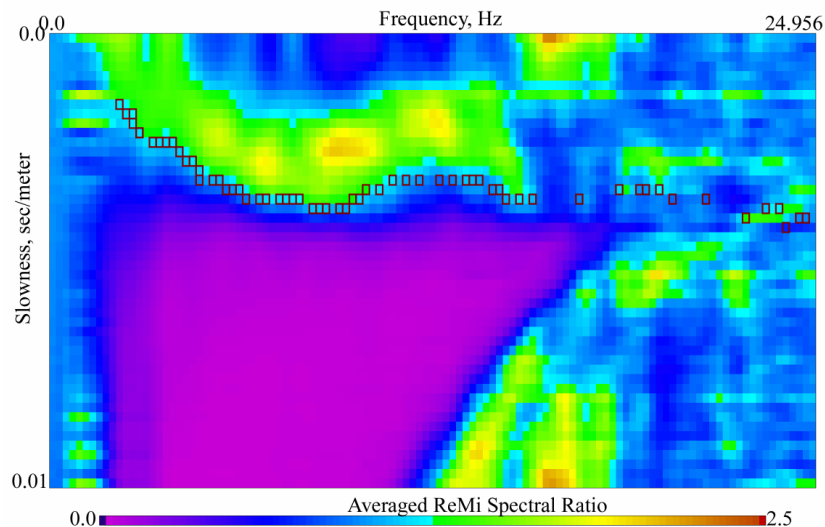
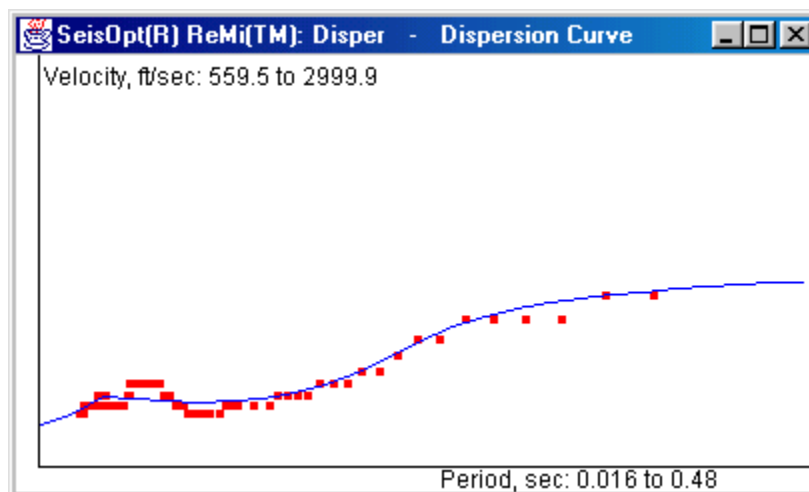

Figure 55: Example p-f image showing the dispersion picks for a model with velocity reversal.
Figure 55a: Dispersion picks (red squares) made from the p-f image shown in Figure 55 and the fits (blue line) produced by the model shown in Figure 55b.
evidence suggesting its presence or if quite a few p-f images (velocity spectra, Figure 55) show velocity reversal signatures.
25. Figure 55 shows an example velocity spectrum (p-f image) that shows a velocity reversal. Figure 55a and b show the picks and the model profiles that fit the dispersion picks. This data set shows a clear “kink” in the picked dispersion values (red squares) that is indicative of the presence of a high velocity layer and thus it is safe to model it as a velocity reversal.